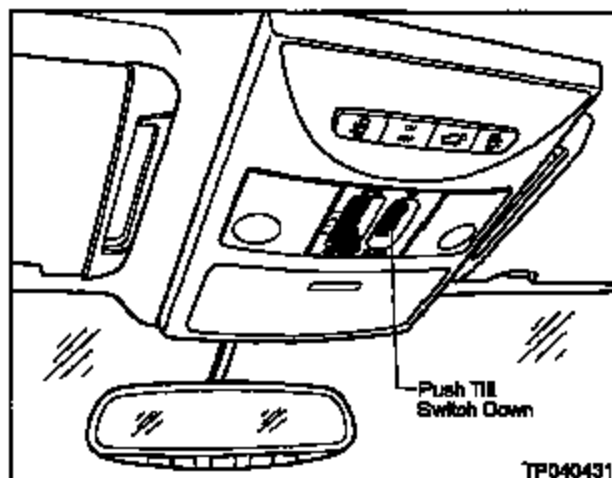

Figure 22
- a. Push the Sunroof Tilt Switch in the tilt DOWN position (repeat as necessary) until the Sunroof is fully closed. See Figure 22.
- b. Then, push and hold the Sunroof Tilt Switch (see Figure 22) in the tilt DOWN position for more than 2 seconds.